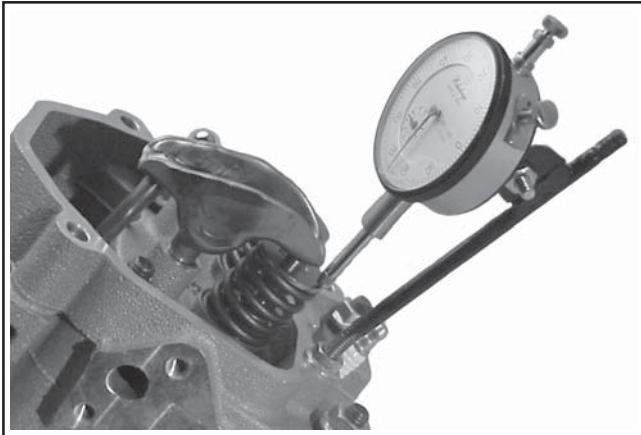

Figure 11-27. Mounted Dial Indicator.
- Mount a dial indicator to touch the top of the valve retainer, of the valve to be set. See Figure 11-27.